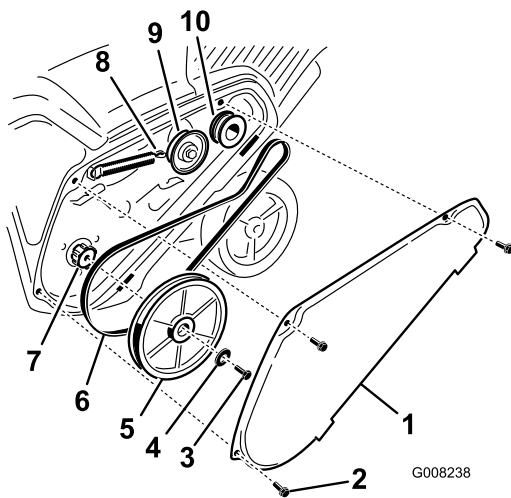

Figure 38
- Remove the drive belt cover by removing the 3 bolts as shown in Figure 38.
- Unhook the brake spring from the idler arm to release the belt tension (Figure 38).
- Remove the screw and curved washer that holds the rotor pulley (Figure 38).
- Remove the rotor pulley and the drive belt (Figure 38).
Note: Route the new drive belt first around the engine pulley, then the idler pulley, and finally around the loose rotor pulley positioned just above the rotor shaft (Figure 38).
- Install the rotor pulley onto the rotor shaft (Figure 38).
- Install the curved washer and the rotor pulley bolt and tighten them securely (Figure 38).